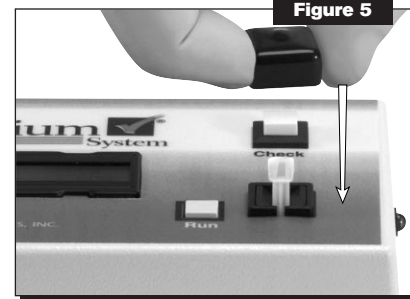

Figure 5
6. Replace the Cuvette Cover and press down to ensure that it is firmly seated (Figure 5). Press the Run button (Figure 6). In about 15 seconds the display will read "Insert Sample Press RUN."